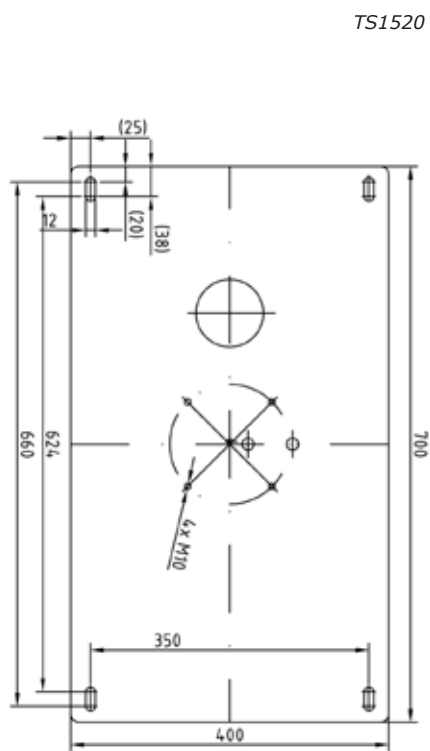

Fig. 10a
- 5.1.1 For the correct distance between the Unistrut® rails, please see Fig. 10a, 10b and 10c.
- 5.2.1 The position of the mounting plate has been fixed during the project planning. When drilling holes for the mounting plate, see template Fig. 10a/10b (for a Siemens installation Fig. 10c).
- 5.2.2 Proceed with the drilling according to the template Fig. 10a/10b (for a Siemens installation Fig. 10c), and the mounting hardware requirements set by the structural engineer.